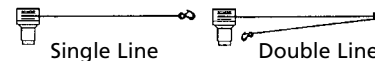

Figure 1
** All loads shown are for single-line operation (see Figure 1). Double-line operation with optional pulley block (P/N 1503) approximately doubles capacity of winch (see Figure 2).